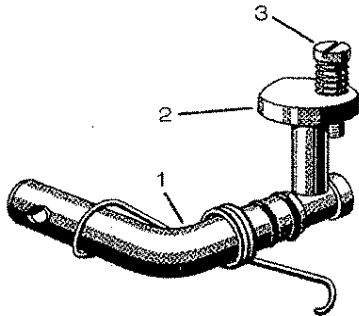

Fig. 44
A small cam machined on shaft of decompression lever (1) located in the tappet guide lifts through tappet (2) pushrod (with threaded section and two nuts locked against each other) actuating the intake valve. Fig. 44.